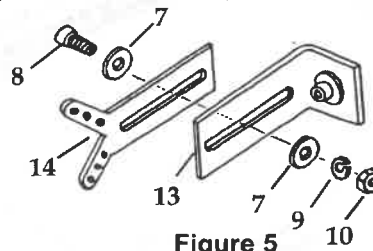

Figure 5
5. Place a flat washer (7) on a $7/8$ " long cap screw (8) and insert the screw through the Y-Support (14) and the bracket (13). Attach it with a flat washer (7), lock washer (9) and a hex nut (10). See Figure 5.